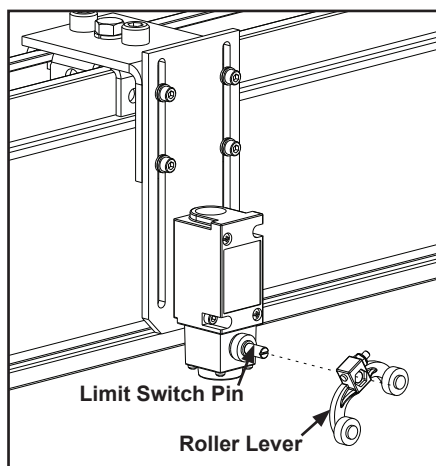

Figure 3-135
- Step 2. Align roller lever onto limit switch pin. Do not tighten lever onto pin, adjustments will be made in later steps. See Figure 3-135.